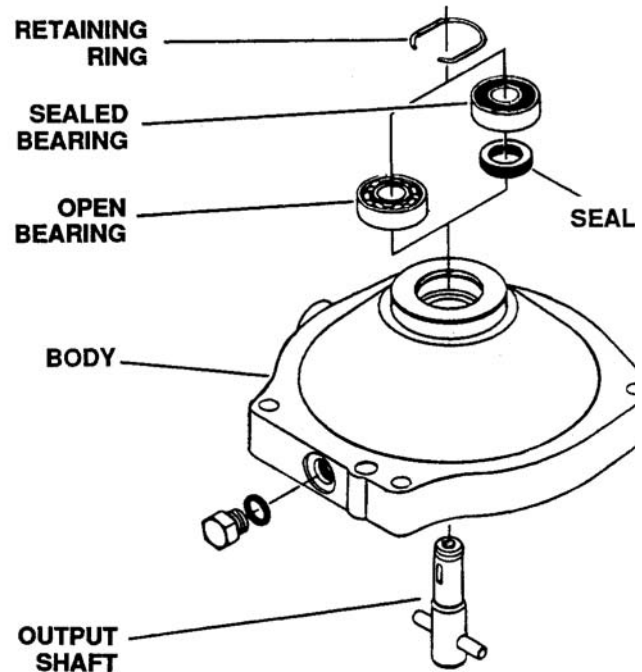

Figure 6-83. Removal of Output Bearing
2. Remove the bearing retaining ring and tap or press the output shaft inward. Drive or press the output bearing out from the motor body. Two types of output shaft bearings are used on Eaton light-duty transmissions—flow through or sealed. Sealed bearings have an oil seal located under the bearing. If your transmission has a seal, remove it by driving or pressing it out from the motor body. See Figure 6-83.